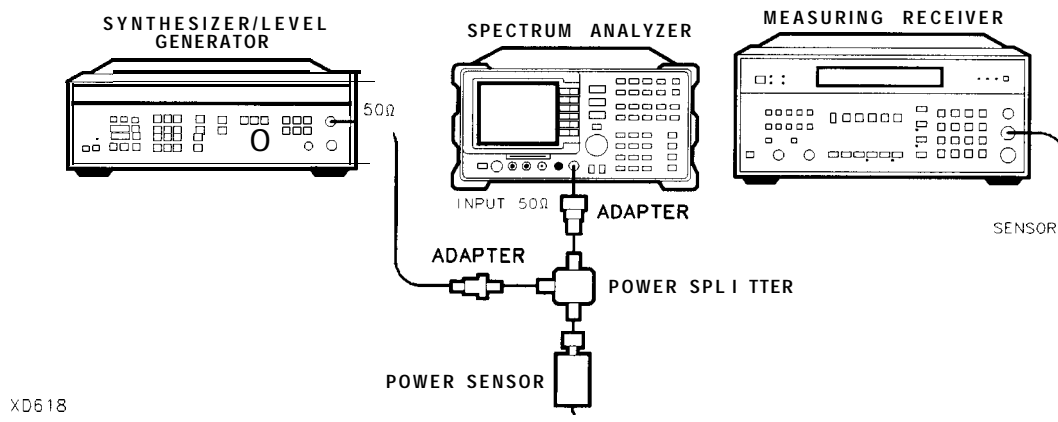

Figure 2-35. Frequency Response **Test** Setup, <50 MHz
27. Connect the equipment as shown in Figure 2-35, with the power sensor connected to power splitter.